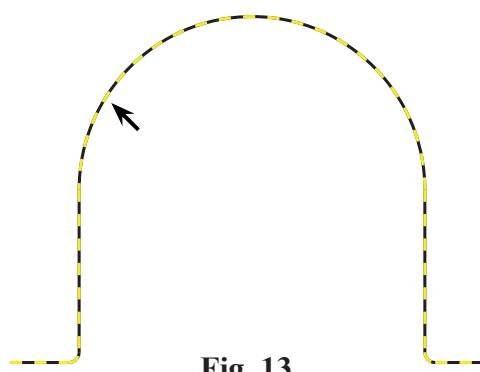

Fig. 13
Step 3. Click any geometry and click OK  in Chaining dialog box, **Fig. 13**.